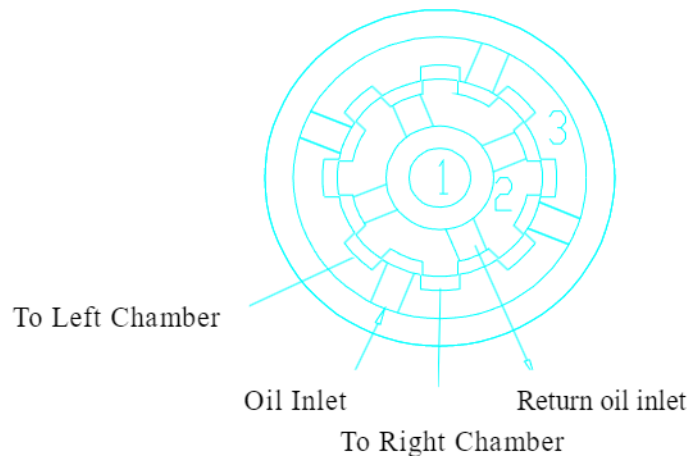

Figure 2
- The control valve is a normally open rotary valve and consisted of: torsion bar1, input shaft 2, valve bush 3 and other components. The hydraulic oil flows into the left and right oil chambers of the Power Steering Gear through the opened clearance of the input shaft 2 and the valve bush 3. The structure is shown as Figure 2.